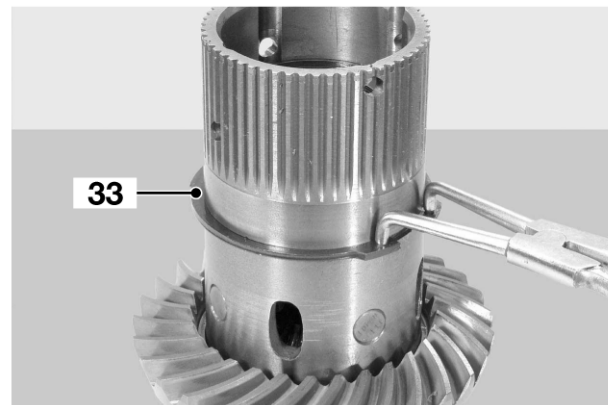

Fig 33.
- 15 Install the circlip 33 to the carrier 4. ⇒ Fig 33. (□ F-50)